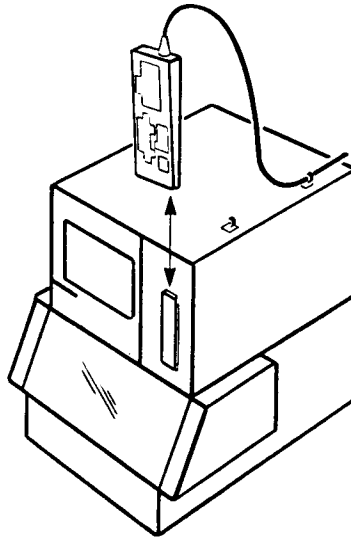

Figure 1-13. Keyboard Installation
1. The keyboard may be hand-held or mounted. To mount the keyboard, slide the keyboard into the holder on the front of the Video Monitor. Lock the keyboard cable into the cable holders on top of the monitor housing (see Figure 1-13).